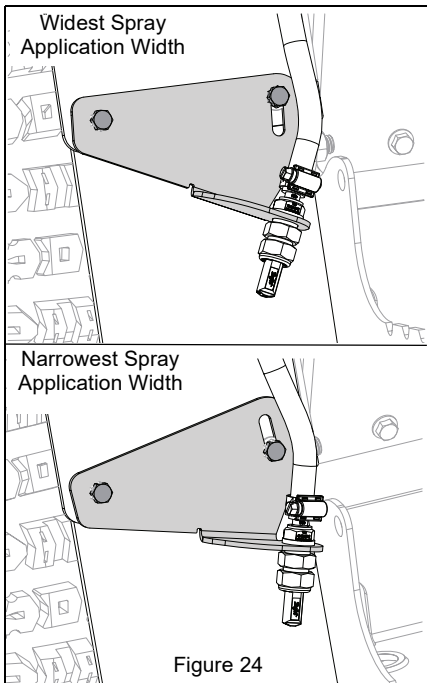

Figure 24
2. Adjust bracket up or down to achieve desired spray application width. See Figure 24.